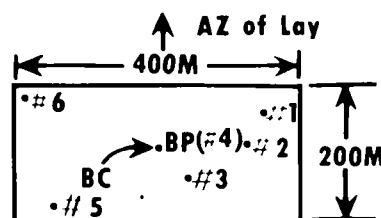

Figure 10-2. Battery position.
b. The amount you can transfer the TGPC really depends on how spread out your battery is. TGPC will provide acceptable effect on the target (within the transfer limits stated above) provided the battery position is within a box *400M WIDE AND 200M DEEP*. This box is centered over the battery center (BC) and oriented perpendicular to the azimuth of lay (fig 10-2). If your battery is more spread out than this, you'll have less effect on the target within the stated transfer limits.